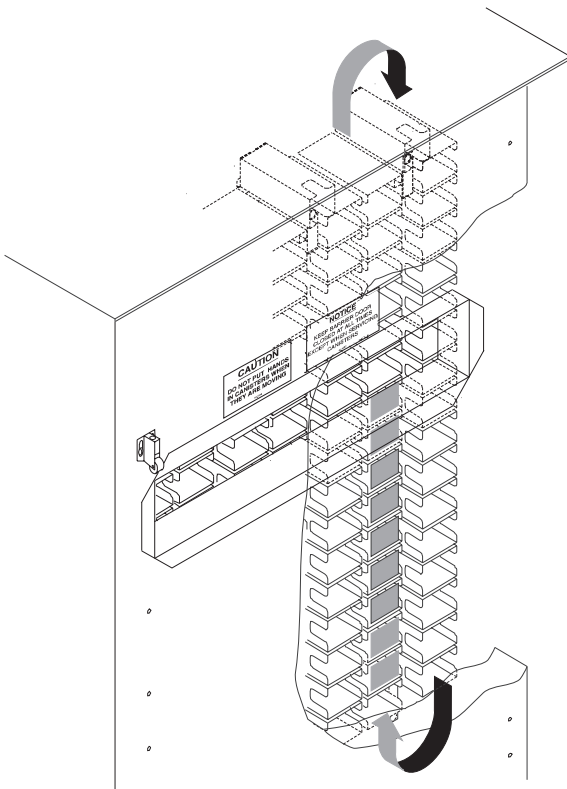
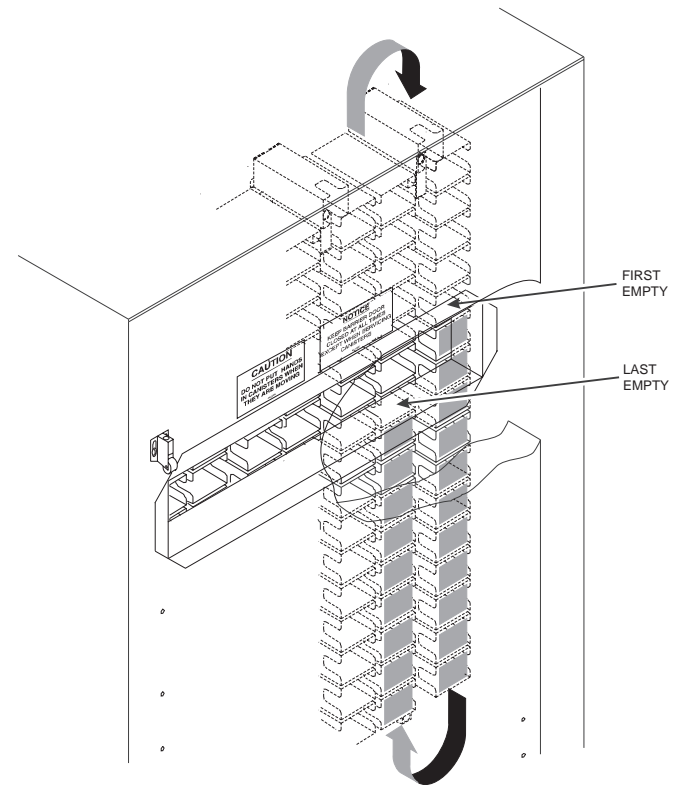

Figure 1
Figure 4
In this example, selection conveyor #4 only has 9 products remaining. Figure 1 shows you what this looks like. Notice that the arrows on the figure show the direction that the selection conveyor moves. Also notice that the next available product is just visible below the loading window.
6. Press **RUN 4** until the LAST EMPTY canister is in the loading window. **NOTE:** You will have to watch carefully to see when the first available product is just below the loading window (figure 4). Notice that this figure looks just like figure 1, except that there are now more products loaded into the selection conveyor. You are now finished partially loading selection conveyor #4.